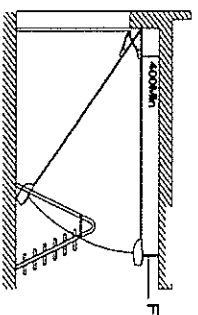
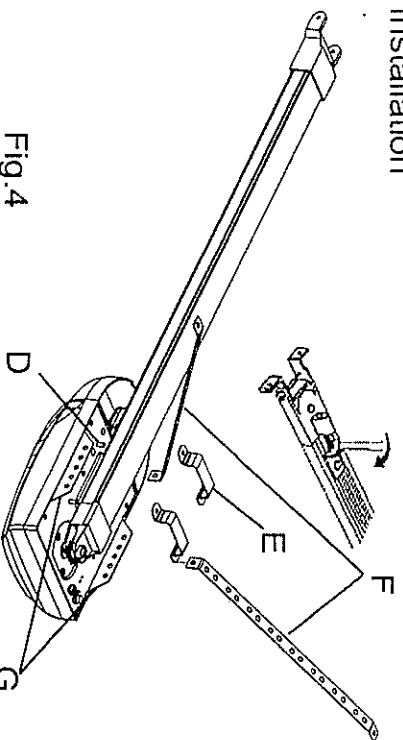
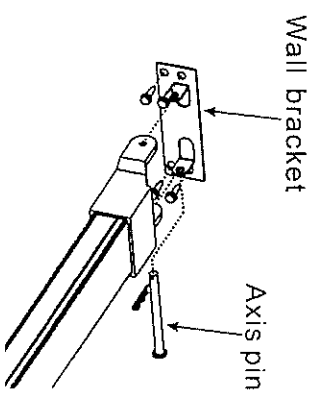

Fig. 3
Fig.4
Fig.5
Make sure the track is horizontal and vertical to the shaft. Make sure the connection of hanging bracket F and ceiling is firm enough (Fig. 3).
Before attaching the U brackets (E) (Fig.4) screw an inverted nut (6mm) (D) on each stud then position the brackets (E) on the studs and secure them in-place using a second 6mm-nut and then lock the brackets to the rail by tightening the inverted lock nuts (D). Connect the opener edge (G) to the hanging bracket (F). Connect the aluminum track to the wall bracket (Fig.5). Check measurements for drilling insert and lock the brackets F and fix the opener to the ceiling with the correct fixings (Fig.3). Cut off any hanging bracket excess.